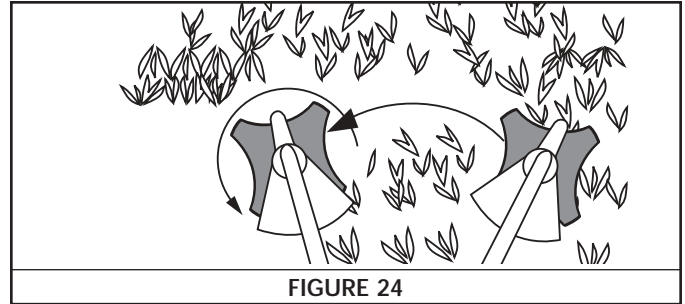

FIGURE 24
- Cut while swinging the upper part of your body from right to left. See Figure 24.
- Swing the unit into material to be cut from your right to your left. See Figure 24.